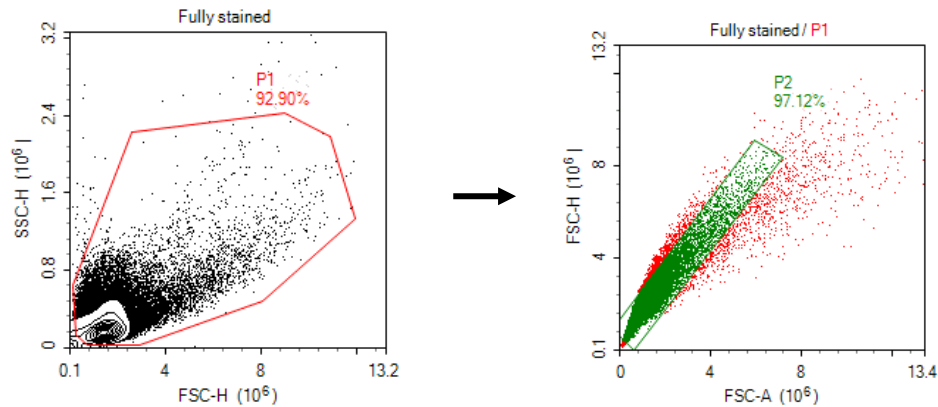

Figure 2. Gating FMO samples. Left: Gate of the cell population; Right: Gate of the singlet population.
7.4.2.1 Make plots on each FMO sample; Refer to Figure 2 for examples of gates